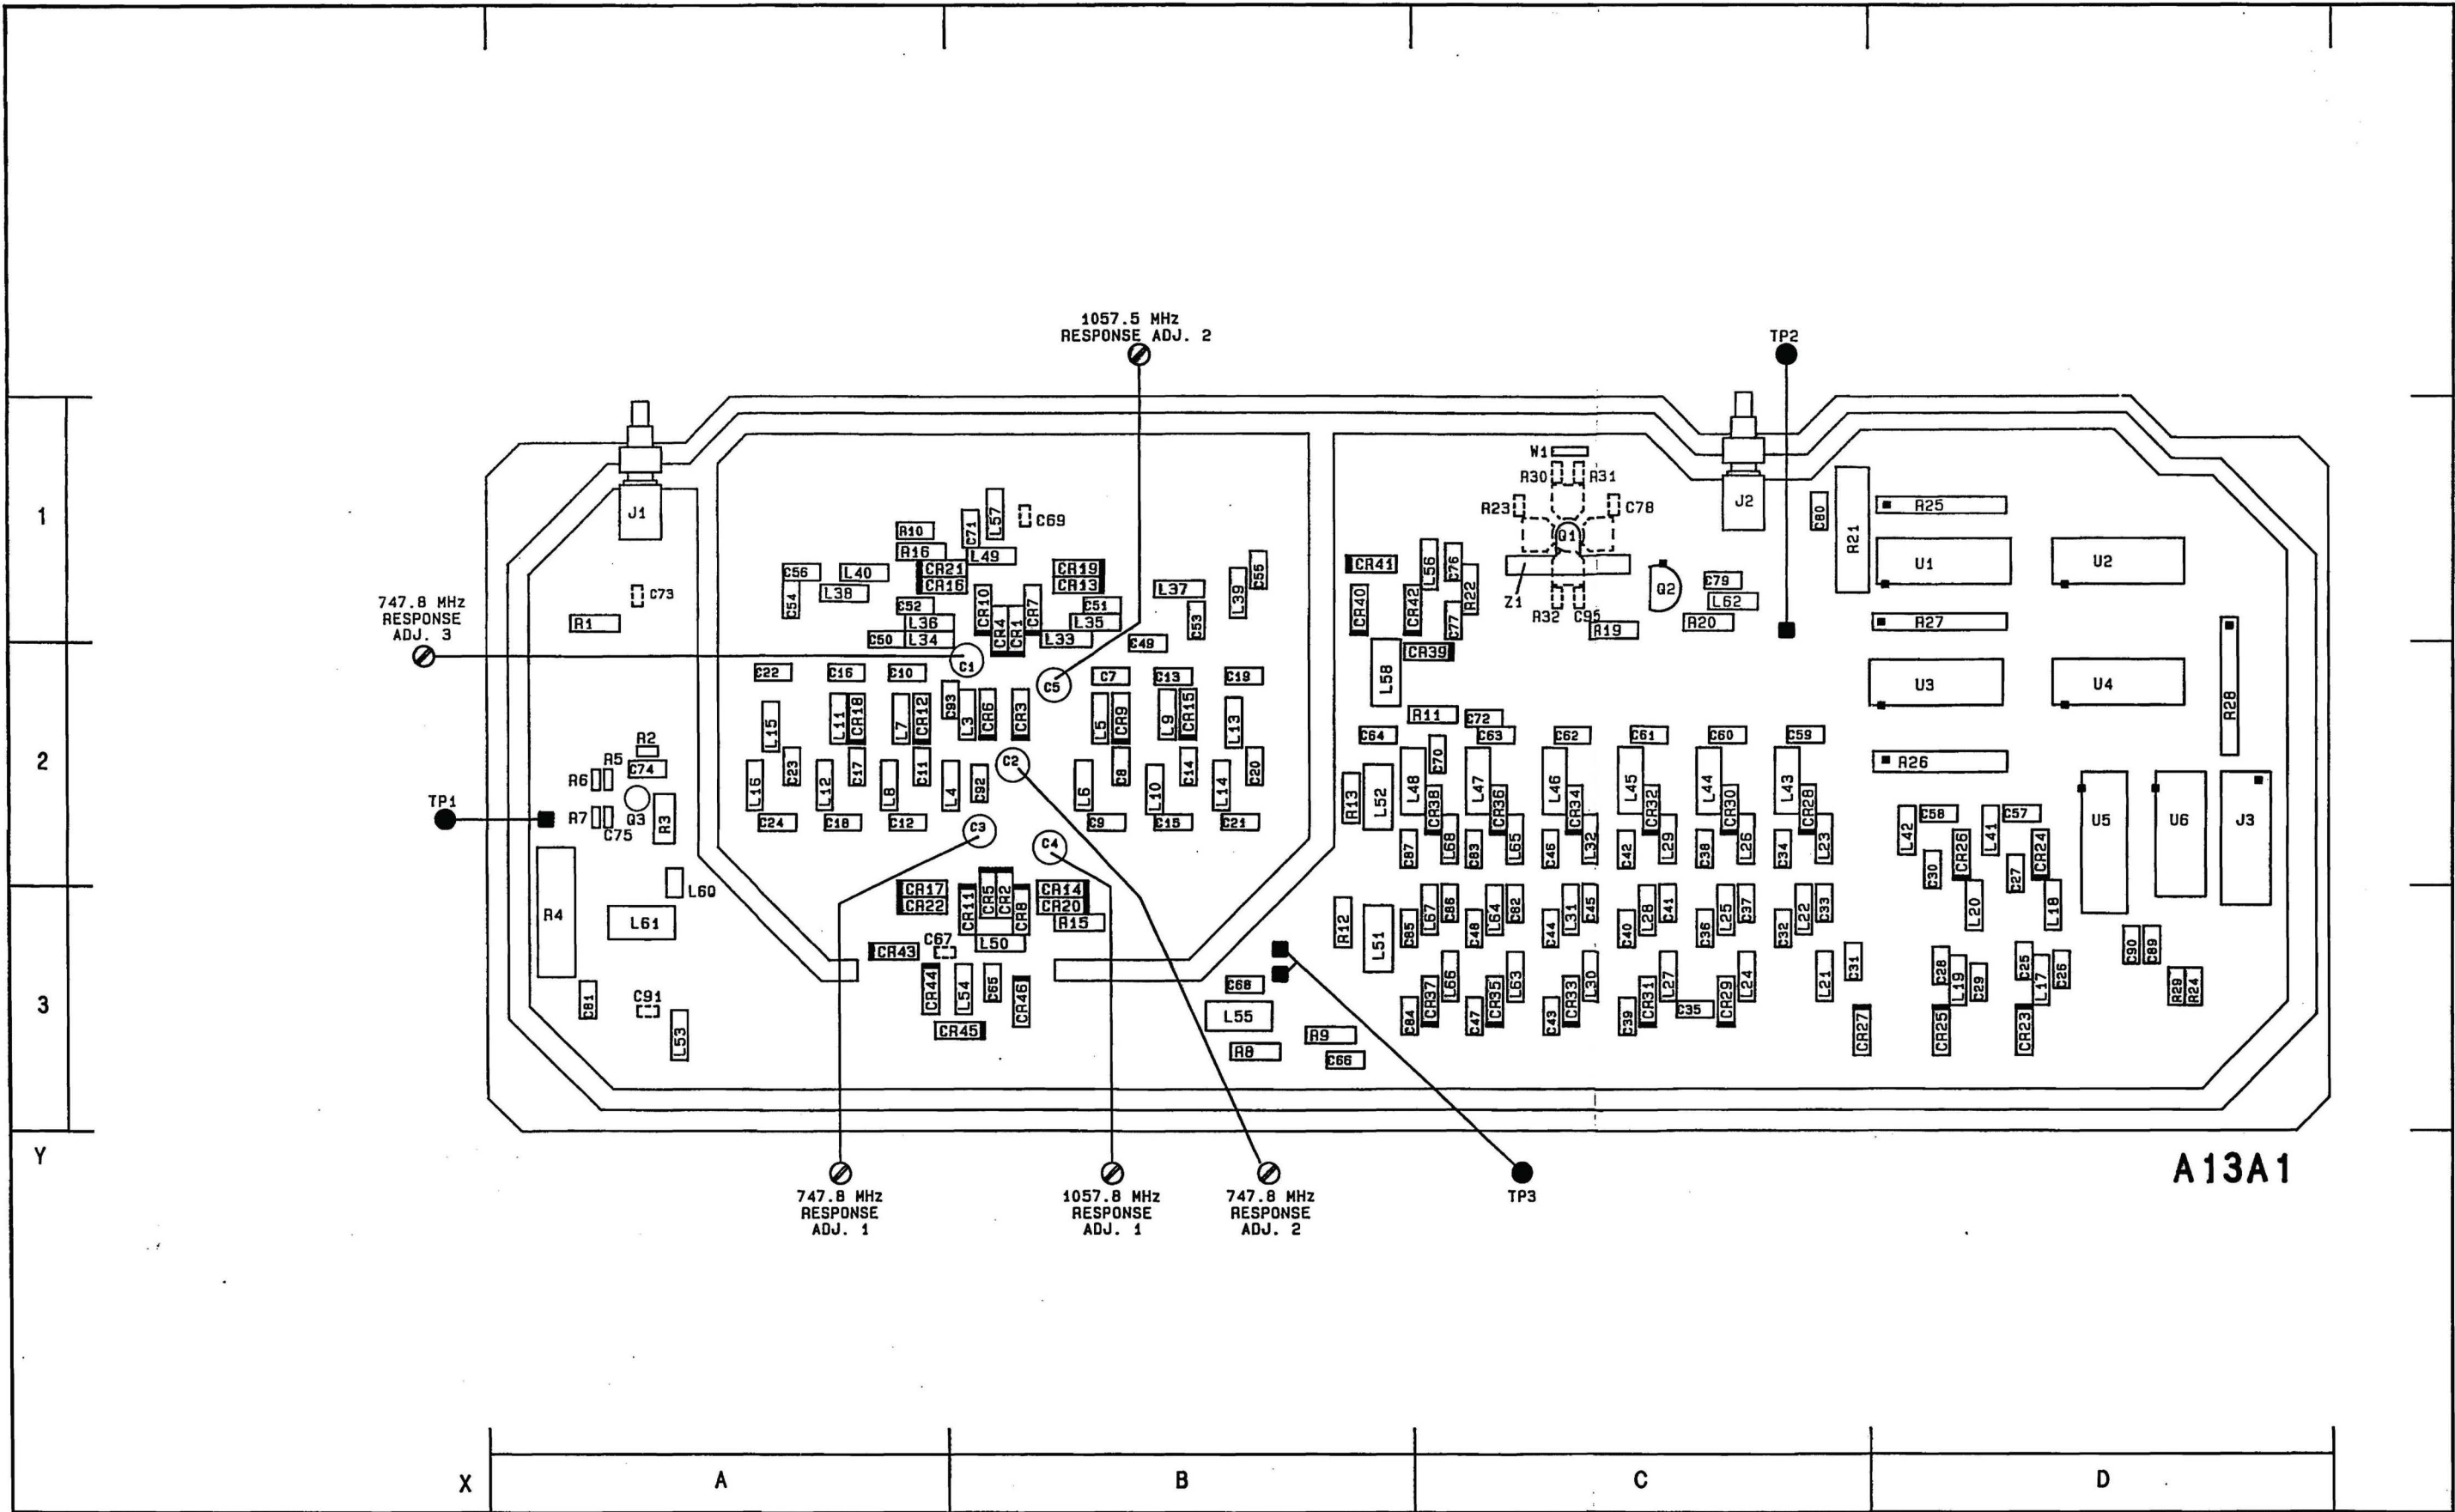

Figure 8P-102. SERVICE SHEET 42 INFORMATION
- C97 - On change page 8P-102.5, in **OUTPUT PATH SWITCH** add C97, 1p, from the anode of CR41 to ground. Change the caption below the schematic partial to read "CHANGES TO FIGURE 8P-103 (2512A to 2550A)"